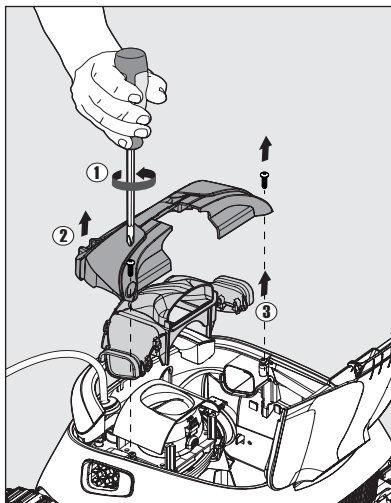

Figure 31
1. Using a No. 2 Phillips-head screwdriver, remove the two screws that hold the intermediate cover and manifold assembly in place. These screws can be found in the inside corners of the intermediate cover. See **Figure 31**.
3. Gently pull the intermediate cover (Item #2 in **Figure 31**) away from the cleaner and place it to the side.
4. Gently pull the manifold assembly (Item #3 in **Figure 31**) away from the cleaner and place it to the side.